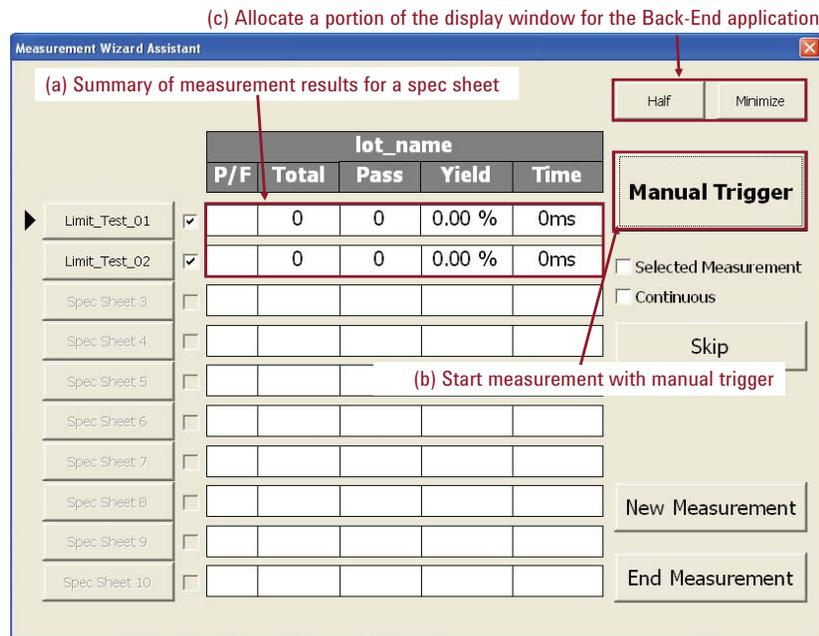

Figure 14. Measurement window for all spec sheets (Back-End application)
- 1) Select **Measurement** on the main window of the Back-End application (Figure 9f) to start the measurement sequence and display the measurement window for all spec sheets (Figure 14). Measurement results for each spec sheet including overall pass/fail results, yield rates and approximate total testing time are summarized in measurement window (Figure 14a).